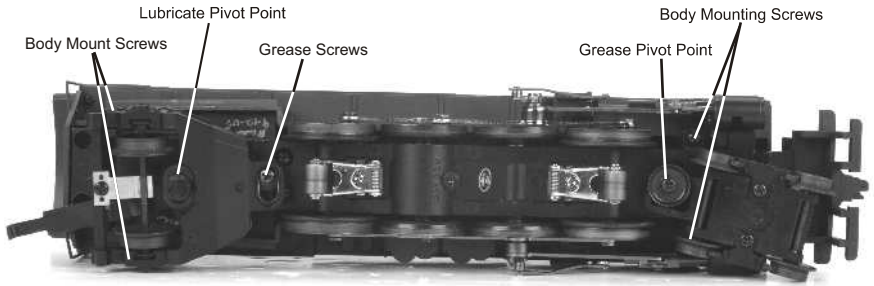
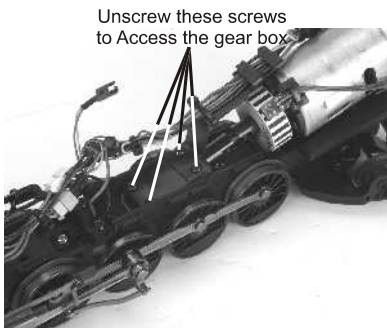
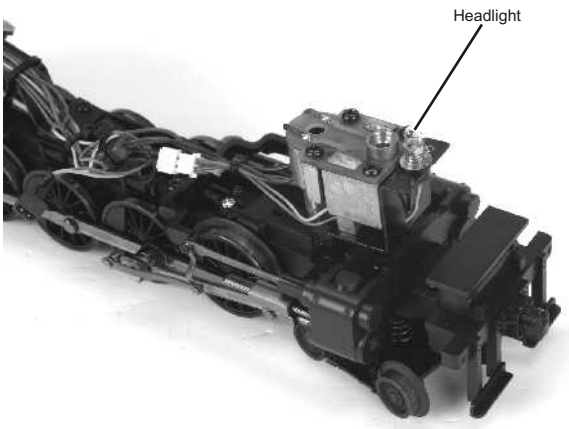

Figure 6. Removing the Body and Lubricating the Grease Points
Figure 7. Motor Gearing Grease Plate Screws
Figure 8
2. Remove the boiler by removing the body mounting screws shown in Fig 6
3. Remove the Phillips screw (marked “GREASE”) located at each set of wheels (Fig. 6) and the gearbox cover screws (Fig 7).
You should also grease the leading and trailing locomotive truck tongues to enhance their ability to slide on the chassis. Follow the grease points shown on Fig. 6.
1. To replace the headlight in this model you will need to follow the disassembly instructions for greasing the engine in figure 6 on pg. 13. Once the boiler has been removed you can access the headlight(see figure 8).
If you experience poor or no smoke output when the smoke unit is on and has fluid, check the wick to see if it has become hard, blackened, and unabsorbent around the heating element. To remove the smoke unit you will first have to remove the boiler shell (by removing the body mounting screws shown in Fig 6 on pg. 13). To do this, follow these instructions: